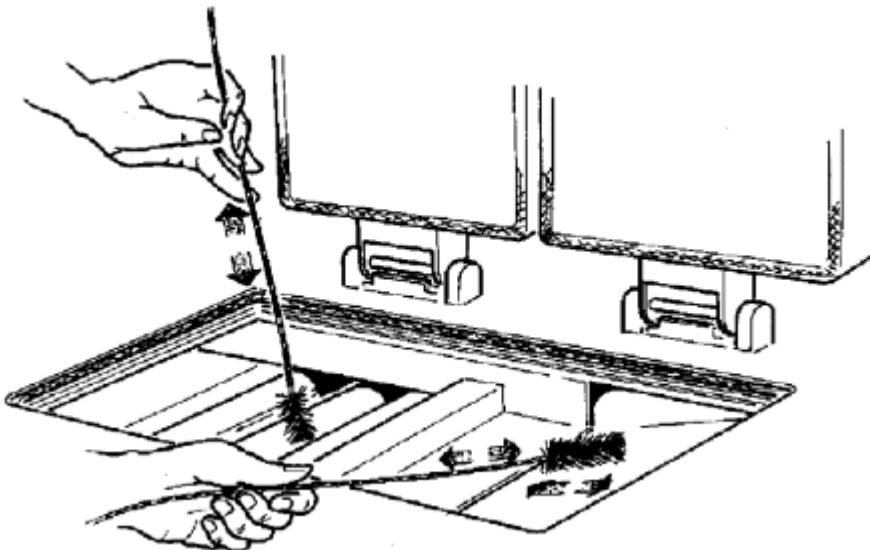

Fig.22 DESN511020
### **To Clean the Boiler Heat Exchanger and Cooker Flueways - See Figs.22 and 23**
- (iii) Use the rake and brush to ensure that the flueway above the oven top is clear and any deposit is removed - See Fig.22.
(v) Thoroughly brush boiler heat exchanger cross firebrick ducts and cooker flueways from the top and bottom of the heat exchanger until free of debris - See Fig.22